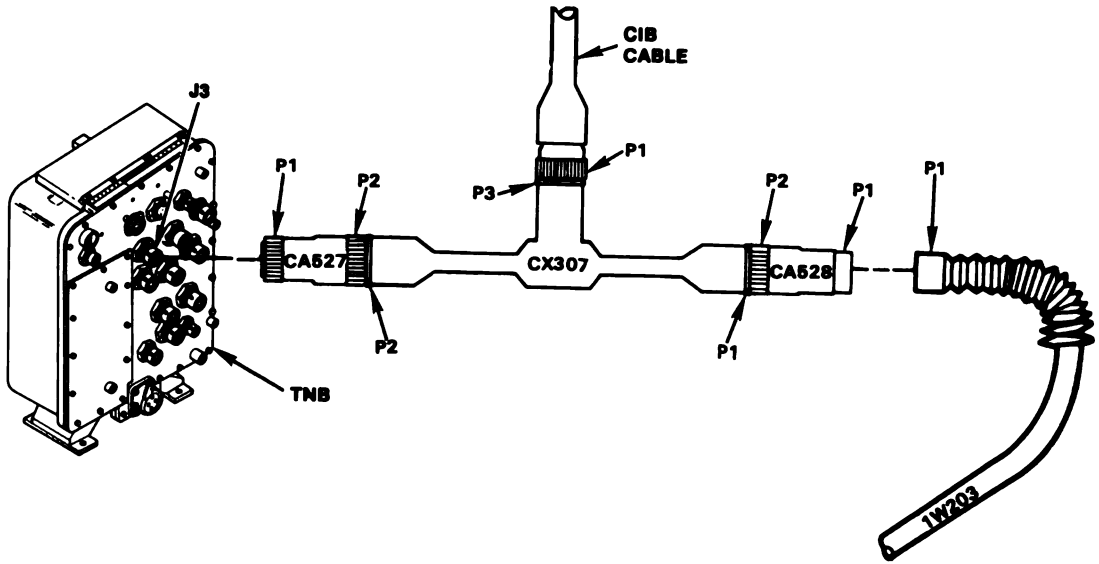

Figure 10-103. STE Turret Cable Hookup Between TNB-J3 and 1W203-P1
ASSEMBLE CX304 CX307 AND CA527/28	<ul style="list-style-type: none"> ● Connect P1 on CIB cable CX304 to P3 on DBA CX307. ● Connect P2 on adapter CA527 to P2 on DBA CX307. ● Connect P2 on adapter CA528 to P1 on DBA CX307. ● See figure 10-103.
CONNECT DBA BETWEEN 1W203 ←-→ TNB J3	<ul style="list-style-type: none"> ● Connect P1 on adapter CA527 to J3 on turret networks box. ● Connect 1W203-P1 to P1 on adapter CA528. ● See figure 10-103.
- See figure 10-103.